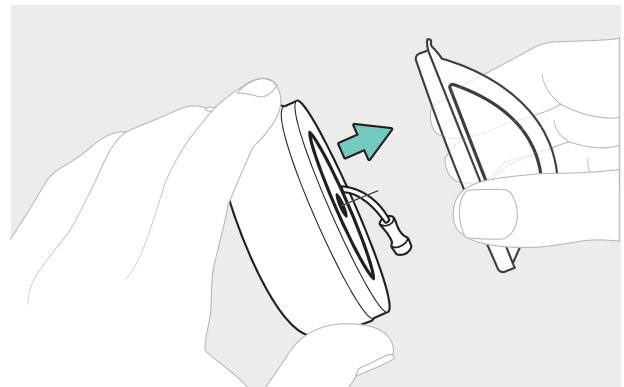

Figure 60
- a. Open the insulin infusion set packaging according to the insulin infusion set instructions to access the tubing (see Figure 60).